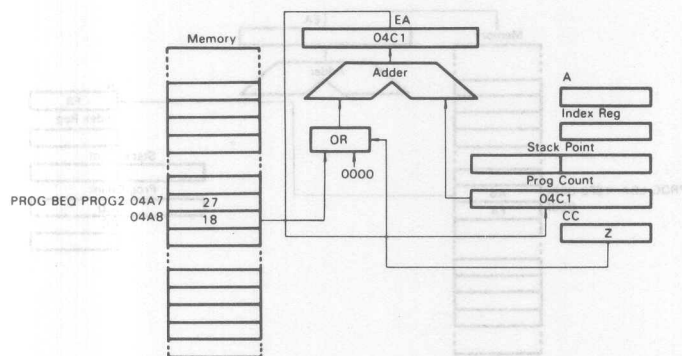

Figure 33 Example of Relative Addressing
See Fig. 33. The relative addressing mode is used with branch instructions only. When a branch occurs, the program counter is loaded with the contents of the byte following the operation code. $EA = (PC) + 2 + Rel.$, where Rel. indicates a signed 8-bit data following the operation code. If no branch occurs, Rel. = 0. When a branch occurs, the program jumps to any byte in the range +129 to -127. A branch instruction requires a length of 2 bytes.